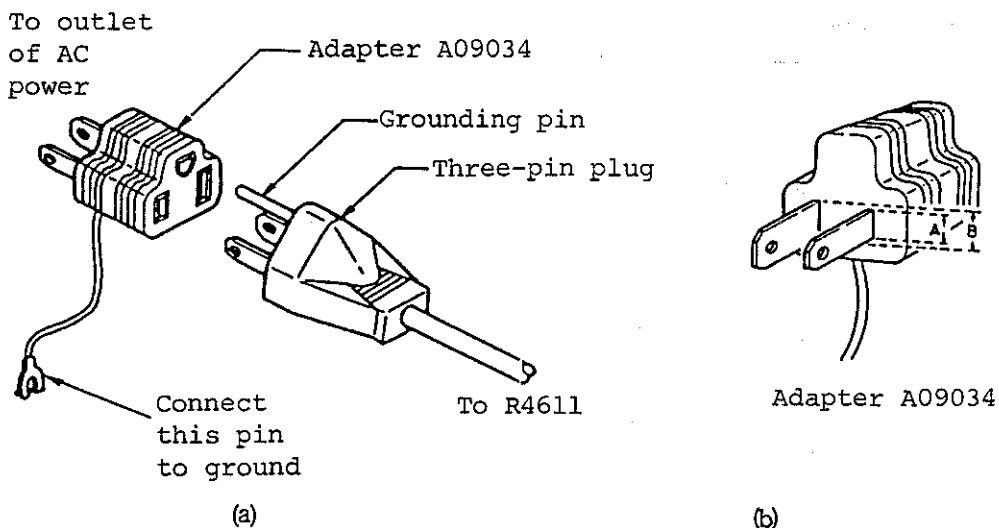

Figure 1-1 Power Cable Plug and Adapter
To connect the plug to the outlet using the adapter, connect either of the grounding cords (shown in Figure 1-1 (a)) of the adapter) or the grounding terminal on the R4611 rear panel to ground via an external grounding cord.
Accessory adapter A09034 conforms to the Law for Electric Products. The width (A) of one electrode of the A09034 is different from (B) of the other one as shown in Figure 1-1 (b). When inserting this adapter into the outlet, check the direction of both the plug and outlet. When A09034 is unsuitable for the outlet to be used, purchase adapter KPR-13.